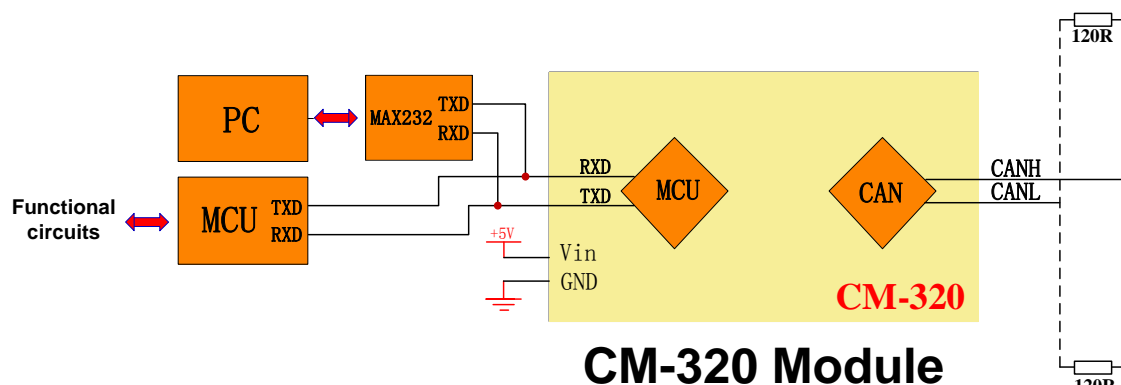

Figure 2.4 RS232 signal interface circuit
CM-320 320's 4,5 pins are TTL signal input and output pins, Since the input and output is TTL level, so when the CM320 is connected to the host computer (PC) serial interface, it needs to connect them using the MAX232. If the CM320 to communicate with the microcontroller, can be directly connected to them. Figure 2.4 shows a micro-controller and CM - 320 module connection diagram, the figure shows only need to connect the pins of these pins.